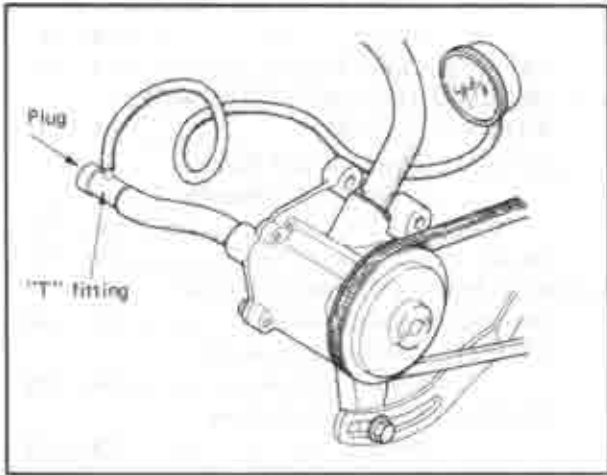

Fig. 1A-1 Checking air pump
5. Connect the air pump gauge set (49 2113 010B) to the air hose as shown in Fig. 1A-1, and clamp hose securely to gauge.